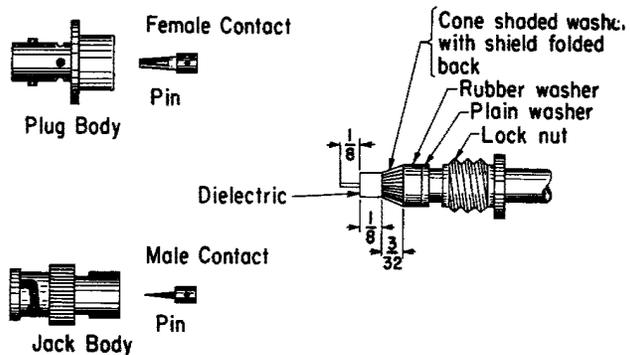

Fig. 48
- (a) Trim jacket as shown in Fig. 48 for desired cable being used.
- (b) Slide lock nut over cable, plain washer, rubber washer, and cone shaped washer. Position cone shaped washer so it is flush with end of outer jacket. See Fig. 48.
- (c) With cone shaped washer in place, comb out braid, fold back smooth as shown in Fig. 48 and trim to 3/32 inch in length.